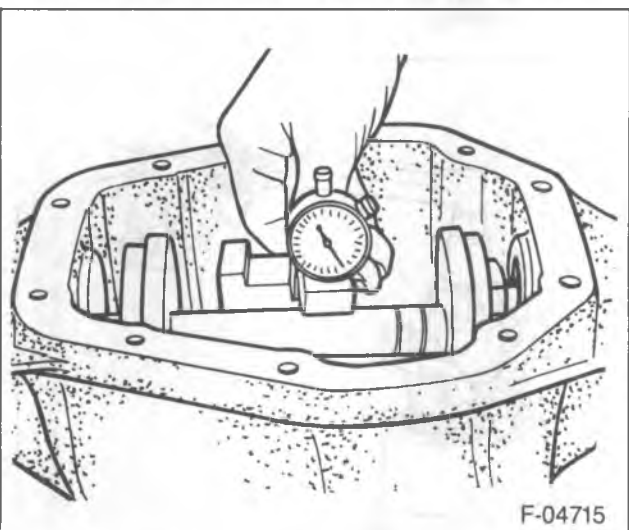

Figure 26—Scooter Gauge on the Arbor
7. Slide the gage over the arbor (figure 26).